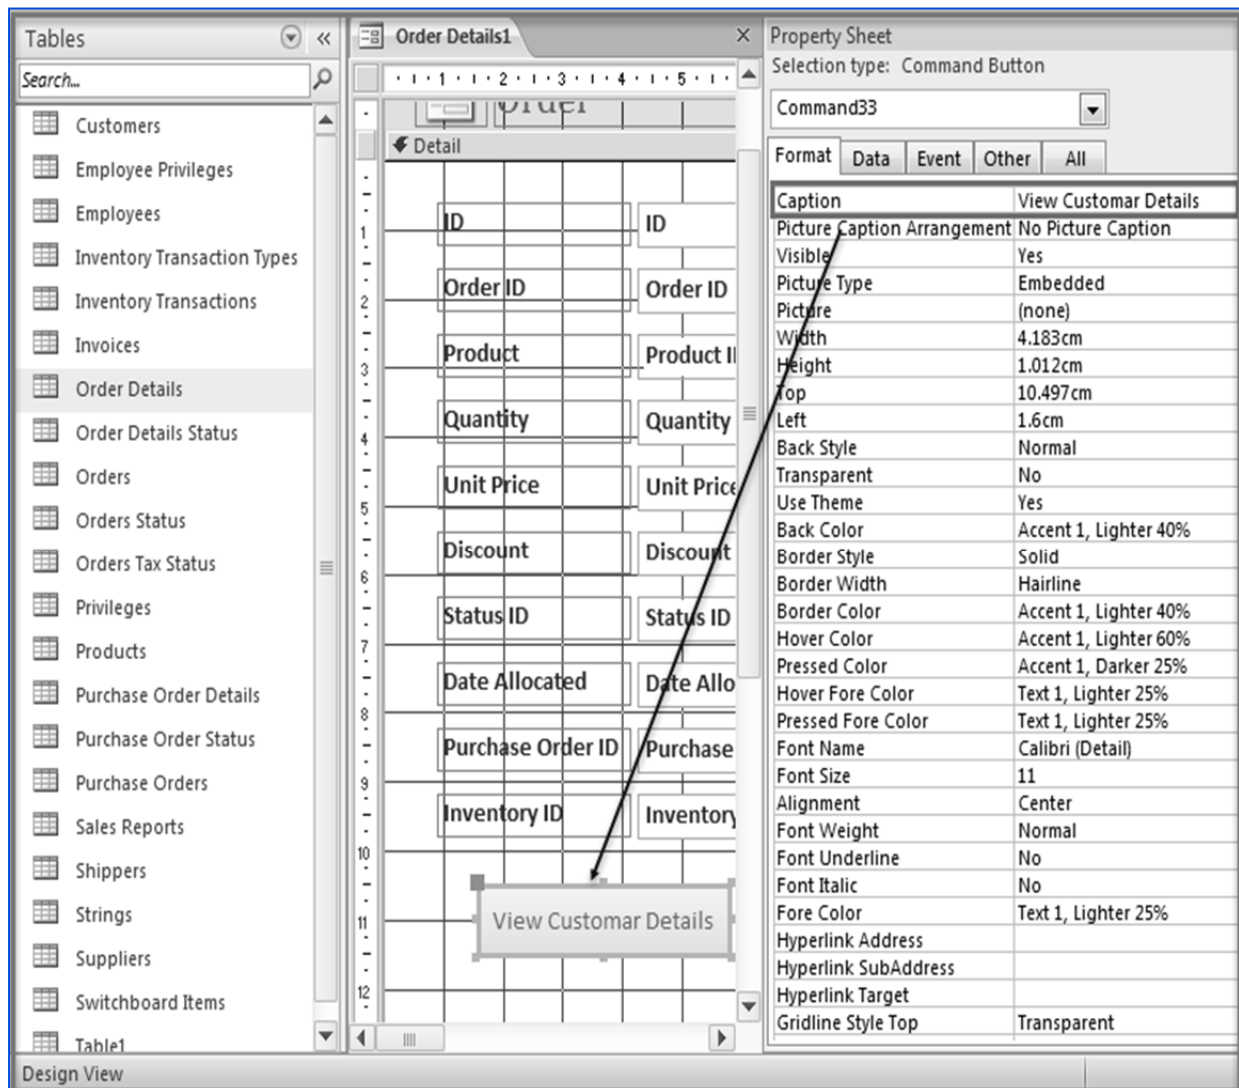

Fig. 4.2.21: Set Caption Property
3. Open the control properties by selecting the *Command* button and pressing *F4*. Set the value of *Caption* property as *View Customer Details*, as shown in Fig. 4.2.21.